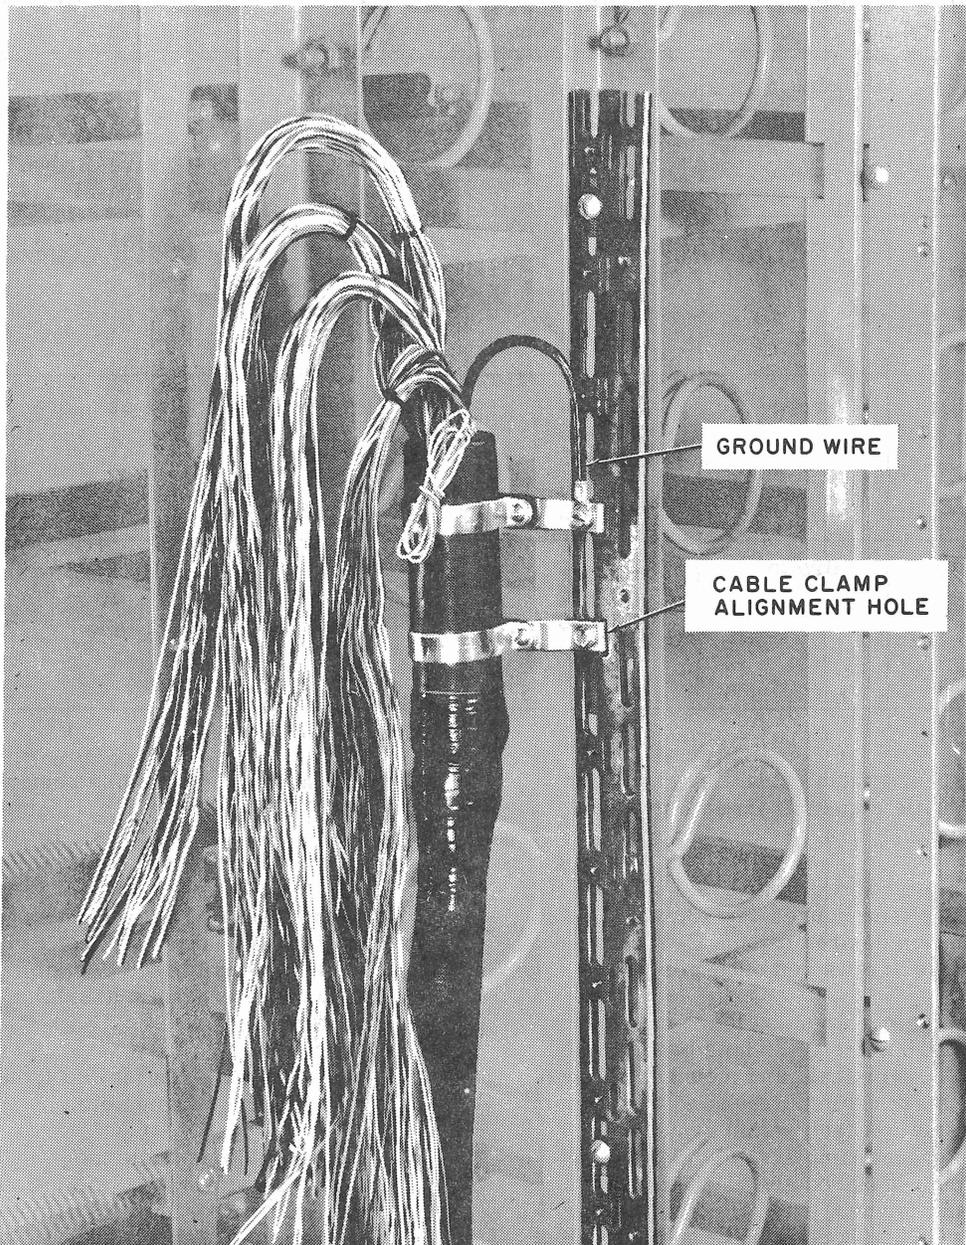

Figure 21. Cable Clamp Mounting for Stubless Connectors
- f. Obtain desired cable stub, place cable stub through appropriate riser hole beneath the desired MDF vertical, and mount in cable clamps. Mark cable number and pair count on cable stub. Attach shield ground wire under top cable clamp screw. (See figure 21). If multi-hundred sheathed cable is stubbed and formed, run shield ground to bus bar. Cable should also be moisture sealed at sheath butt point.